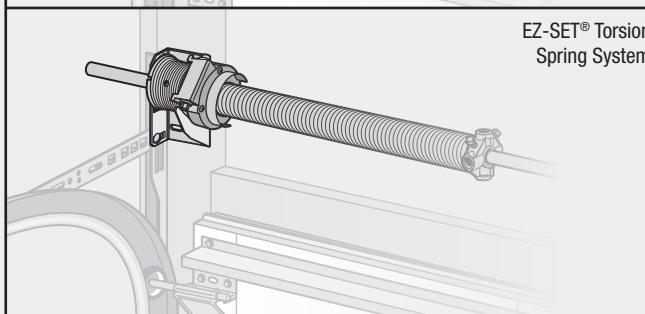

Fig. B.2-1
- Place C-clamps or locking pliers tightly on both sides of track under door so door is held securely in place (Fig. B.2-1).